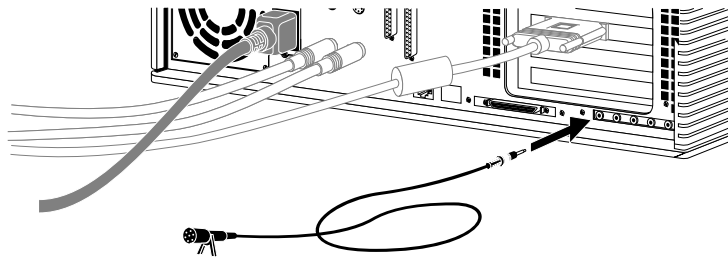

Figure 2-12 Connecting the Microphone to the Indigo² Chassis
4. Connect the microphone to the connector above the microphone icon on the back of the Indigo² chassis, as shown in Figure 2-12.